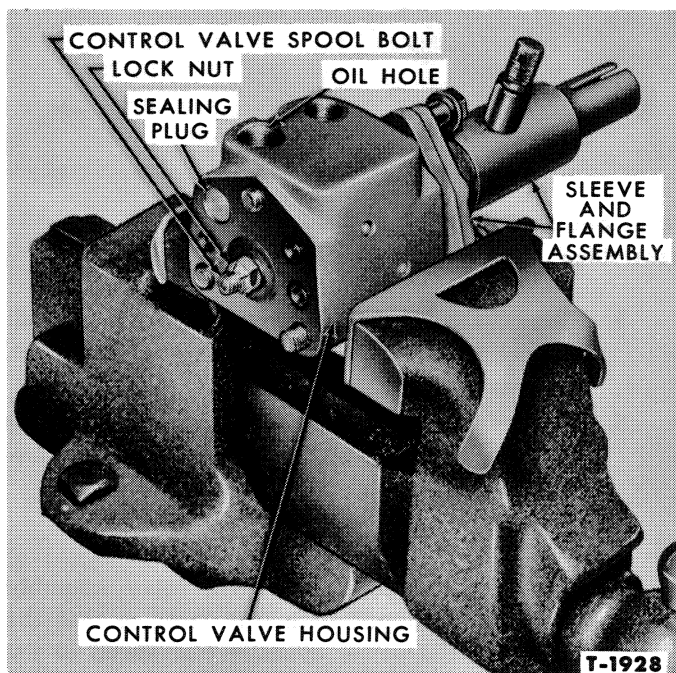

Figure 26—Control Valve with Sleeve and Flange Assembly
3. Place the control valve in a vise and remove the lock nut from the control valve spool bolt, Figure 26. This will permit the control valve sleeve and flange assembly to be removed from the valve control housing, Figure 26.
5. Remove the sealing plug from the cylinder end of the valve housing by forcing it out with the short end of a $\frac{3}{32}$ " Allen wrench inserted through the oil hole in the top of the housing, Figure 26.